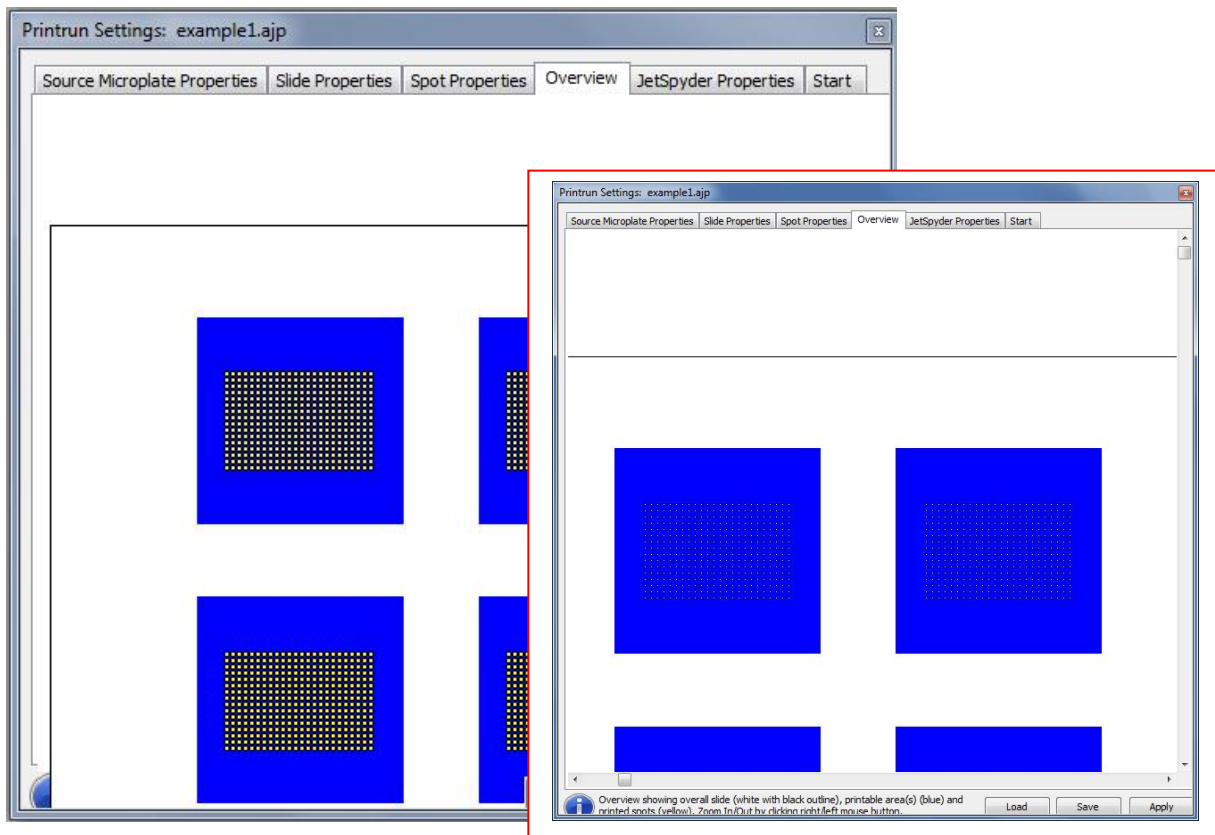

Figure 6-9 The Overview tab-5 drops per spot printing; centred mini-arrays shown in zoomed-in view
- Navigate to the **Overview** tab (Figure 6-9)
The **Overview** tab, as previously stated, enables the user to visualise the microarrays to be printed as they will be printed on the selected substrates, with the appropriate number of features, bearing in mind the number of probe samples to be printed, and the number of features to be printed per probe sample. In the example shown in **Figure 6-9**, a number of mini-arrays are to be printed with the microarrays themselves neatly centred within the mini-array area, as shown by the features.